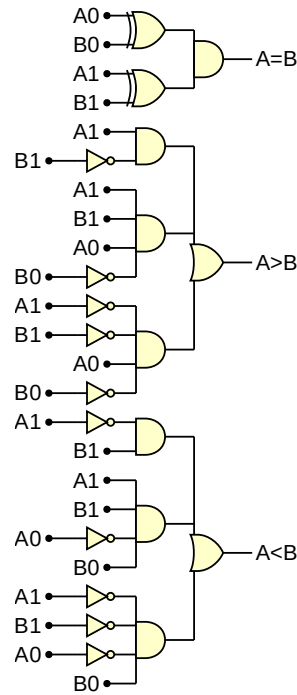

Figure 3: Solution to Exercise 2.
- Using AND, OR, XNOR, and inverter gates, (a) create a 2-bit comparator that yields True if $A > B$, (b) True if $A = B$, and (c) True if $A < B$. For each circuit, assume both A and B are 2-bit binary positive numbers. (d) Wrap this all into one circuit with three outputs and 4 inputs. *Hint: use Karnaugh maps for parts (a)-(c) to simplify the gates. See Fig. 3.*